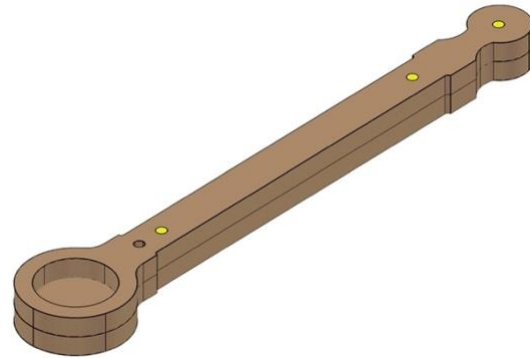

Fig. 54
- *Fig. 54* shows the completed process.